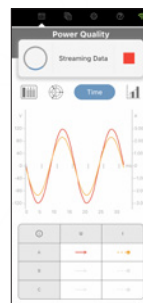

Figure 3
- Figure 3: Phase A: Displays voltage and current line cycles for line A on the same plot